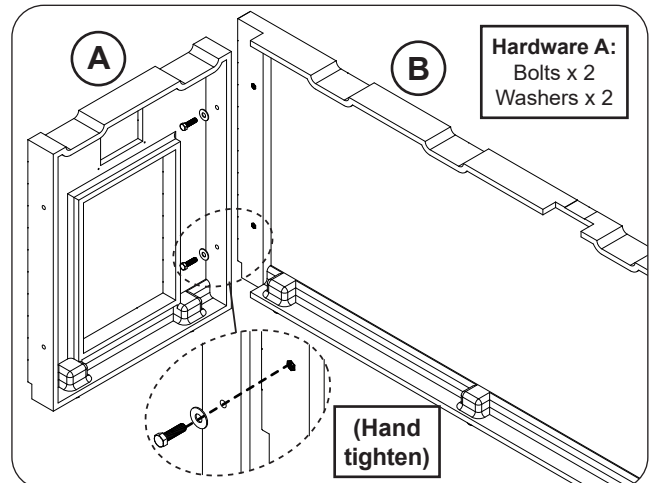

Fig. 11-2 Assemble side wall and rear wall
Orient the side wall (A) and rear wall (B) as shown. Carefully align the pilot holes, and insert the hardware (hardware kit A) in the order shown. Hand tighten only. See Fig. 11-2.